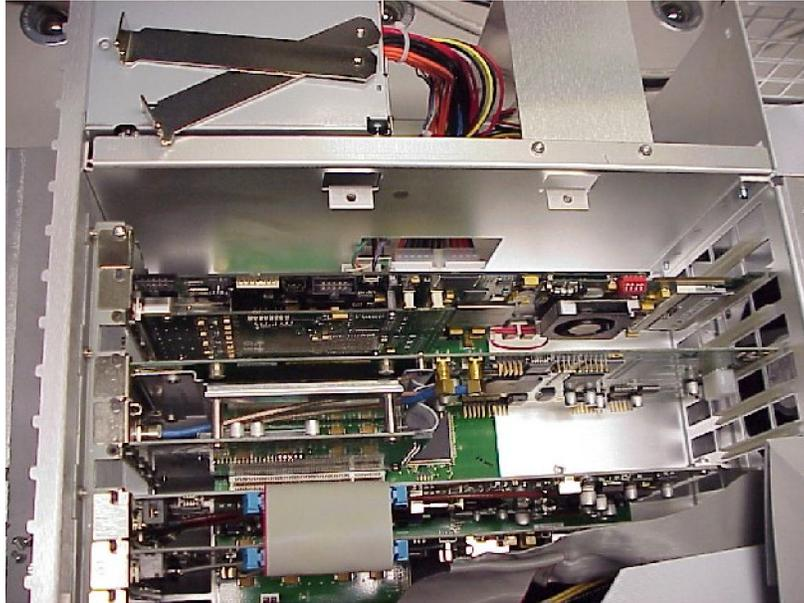

Figure 8: Hardware upgrade module installed in slot 4
3. Press down firmly to engage the module into the slot 4 connector (see Figure 8).